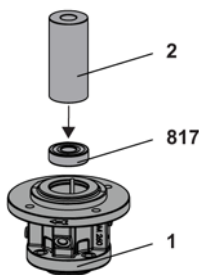
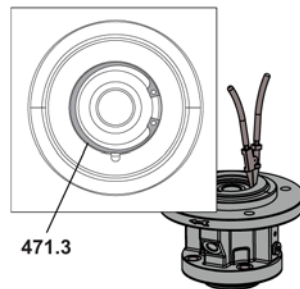

Fig. 16
Fig. 17
2. Use the ball bearing mounting sleeve 2 to press the ball bearing 817 into the flange cover 1, see Fig. 16, and fasten using the circlip 471.3, see Fig. 17.